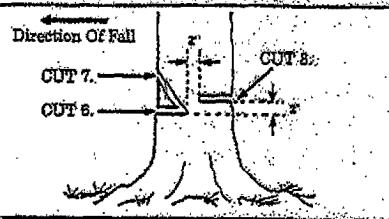

Figure 20
**NOTE:** If the tree has large buttress roots, remove them before making the notch. Cut into the buttresses vertically, then horizontally. Figure 20.
- a. Make the notch cut. Figure 20.